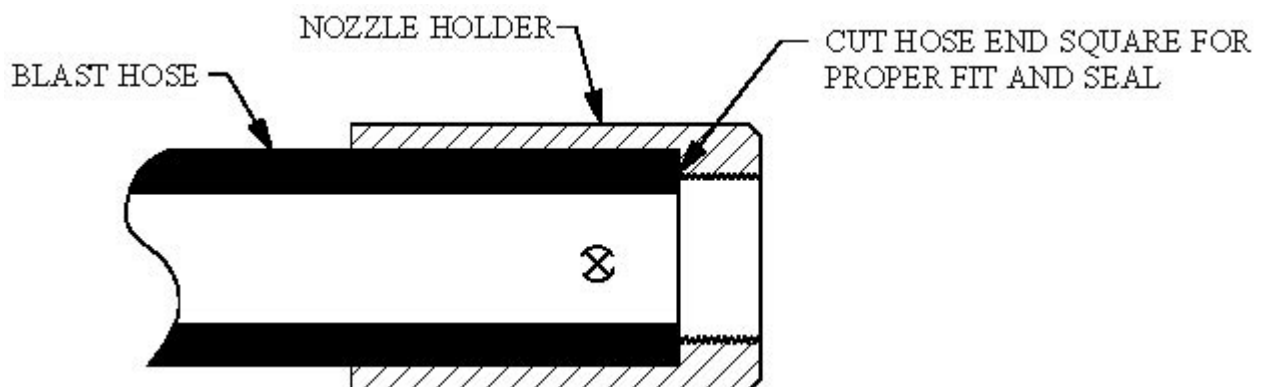

Figure 24
7. All air hose, blast hose, and threaded couplings have gaskets that seal the connection. To prevent loss of air pressure and/or premature abrasive wear replace these gaskets when leaks are found. Inspect the couplings daily for leaks and wear. Replace gaskets when visible wear or leaks are found. When installing or replacing hose couplings cut the hose end square for secure fit (see Figure 24). To insure proper coupling connection always use fittings that are the same brand.